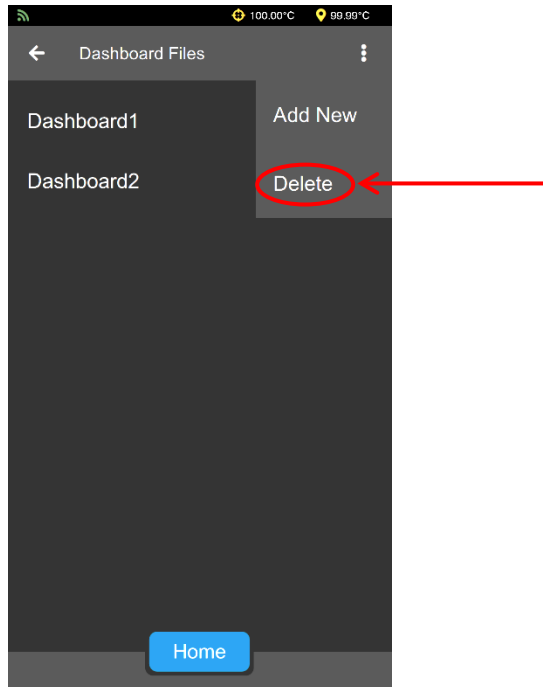

Figure 53: Dashboard Files Menu Screen
4. Select "Delete" from the dropdown list. See Figure 53